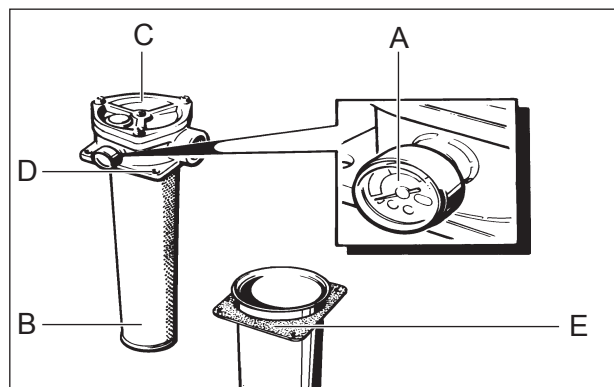

Figure 9.25 - Return Line Filter
3. Clean the outside of the filter housing (C), Ref: Figure 9.25.
4. Remove the filter by unscrewing the retaining bolts (D), Ref: Figure 9.25.
5. Lift out the old element (B) and discard it safely, Ref: Figure 9.25.
7. Re-fit new filter ensuring seal ring (E) is in good condition and correctly positioned, Ref: Figure 9.25.